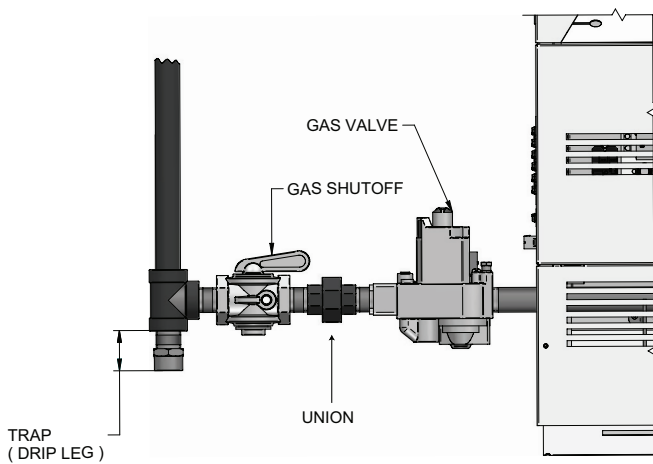

Figure 3-1_Gas Line Connection
3. Installation of a union is suggested for ease of service, see FIG. 3-1 on page 22.
5. A trap (drip leg) **MUST** be provided by the installer in the inlet of the gas connection to the appliance, see FIG. 3-1 on page 22.
All gas connections must be made with pipe joint compound resistant to the action of liquefied petroleum and natural gas. All piping must comply with local codes. Tubing installations must comply with approved standards and practices. Reference FIG. 3-1 for a typical installation.